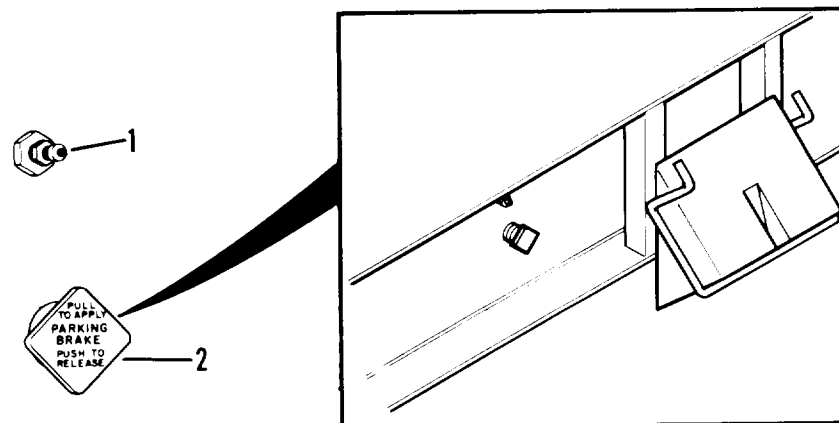

Figure 4-30. Charging air system
- (1) Remove cap on valve (1, figure 4-30) above parking brake control valve handle (2) on left side of semitrailer.